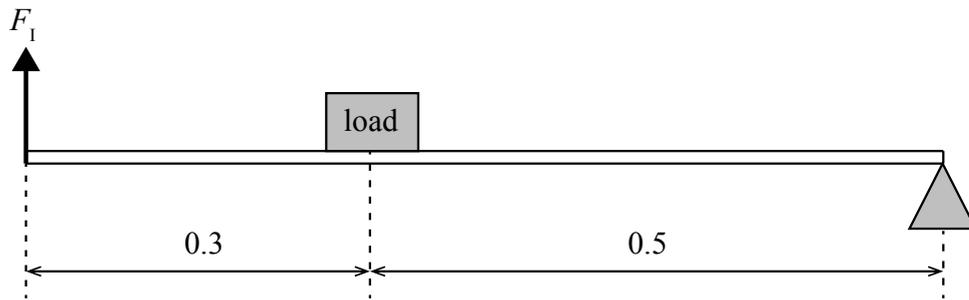

Fig. 3
- (c) Fig. 3 shows a diagram of a lever with a length of 0.8 m. The lever has a fulcrum at one end and an input force, F_1 N, at the other end. A load on the lever is positioned at 0.5 m from the fulcrum.